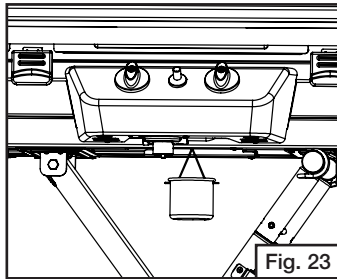

Fig. 23
- Attach grease cup to grease cup holder. (Fig. 23)